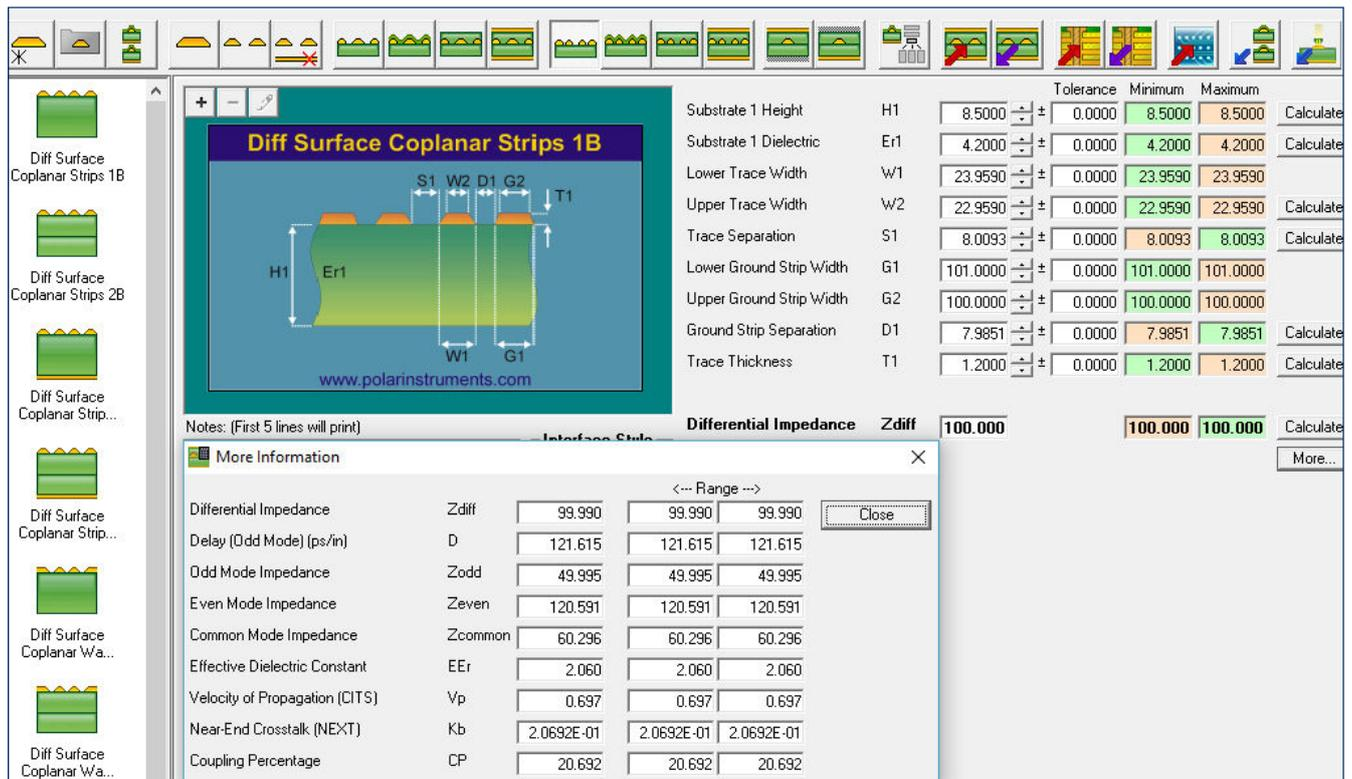

Figure 6. Polar Instruments – Impedance Calculation
- Figure 6. Polar Instruments – Impedance Calculation 6